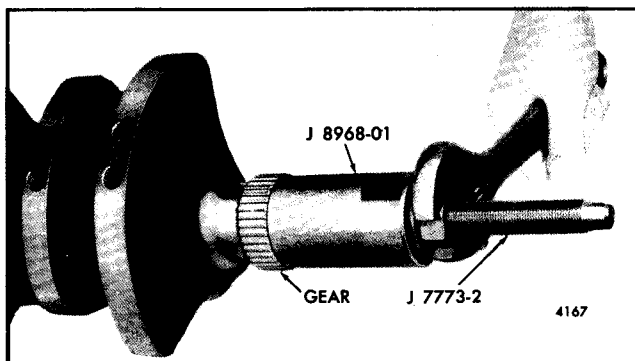

Fig. 8 - Installing Oil Pump Drive Gear
2. Position the drive gear installer J 8968-01 over the end of the crankshaft and against the drive gear and force the gear in place as shown in Fig. 8. When the end of the bore in the tool contacts the end of the crankshaft, the drive gear is correctly positioned (2.680" from the front end of the crankshaft to the forward face of the gear).